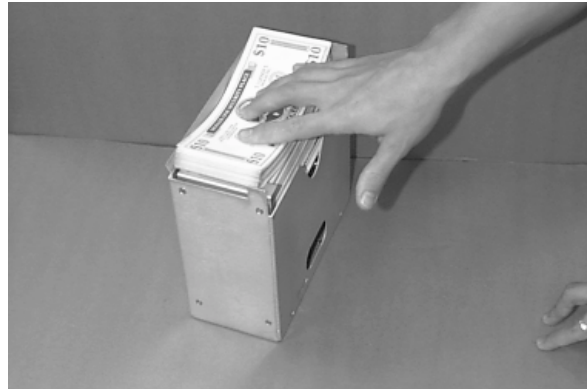

Figure 4-5. Place bundle of notes on top of feed opening.
6. Place the cassette on a level, flat surface, oriented so that the feed opening is up, as in Figure 4-5. Place a small bundle of notes, approximately one inch thick, on top of the opening. If there are no notes already in the cassette, the bundle will rest on the spring pressure plate.